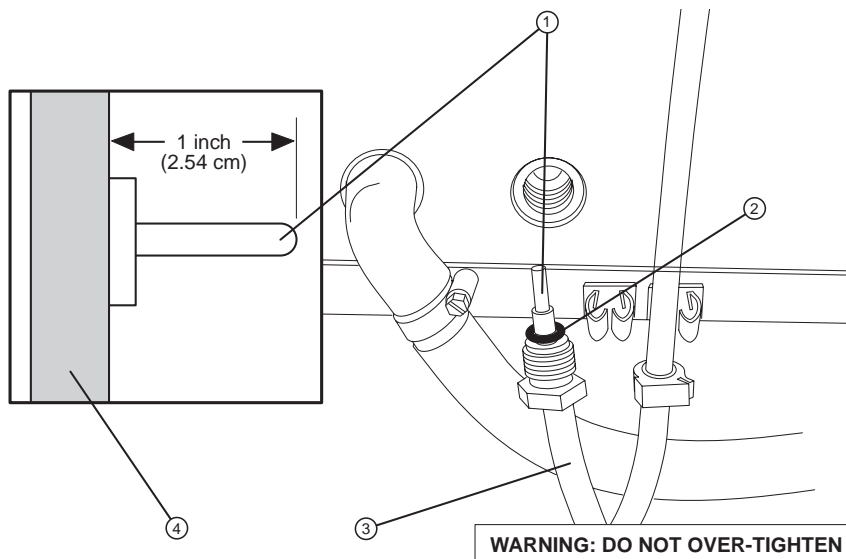

Figure 3-15 Heating element temperature sensor and O-ring.
4. Using an open end wrench, loosen the PVC nut. Refer to Figure 3-15.
5. Pull the sensor out. Refer to Figure 3-15.
1. Reverse the removal procedure above being careful that the distance between the tank wall and the tip of the sensor does not exceed 1". Refer to Figure 3-15.